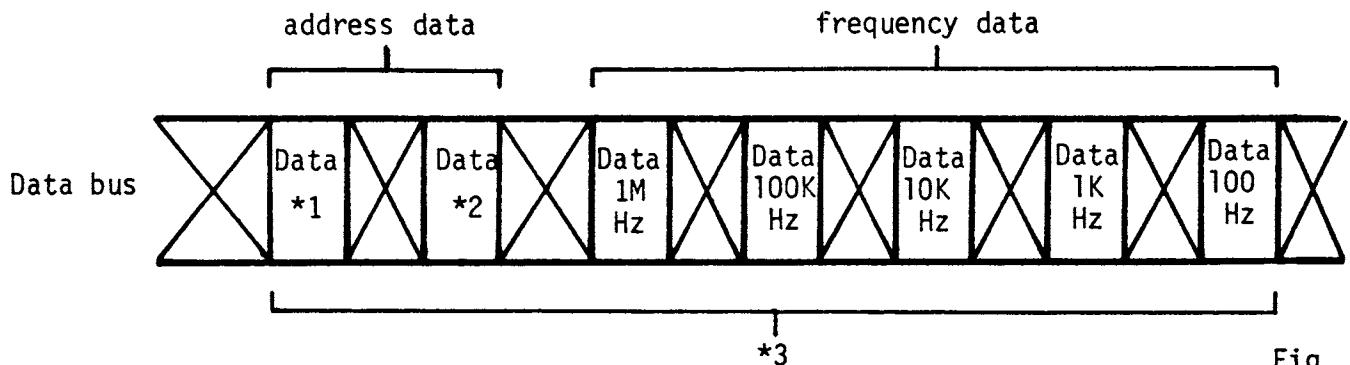

Fig. 10
- Sequentially send the frequency data (A-E) after receiving Data *2 from the transceiver. Refer to Fig. 10.
- The DBC and RT pulses are needed when sending frequency data from the remote controller to the transceiver. Refer to (5).
- RT is needed when sending frequency data from the transceiver to the remote controller. Refer to (5) which illustrates sending frequency data.